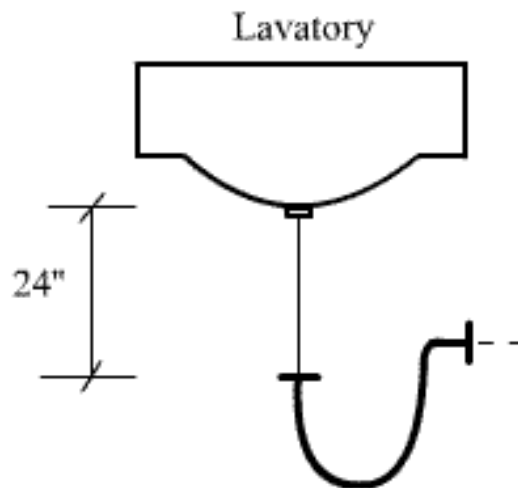

Figure 6.4. Maximum Vertical Drop
6) For sinks, lavatories, showers, bathtubs and similar fixtures, the maximum allowable vertical drop from the fixture waste outlet to the trap water seal can not exceed 24 inches (18 inches in some codes). (Figure 6.4)